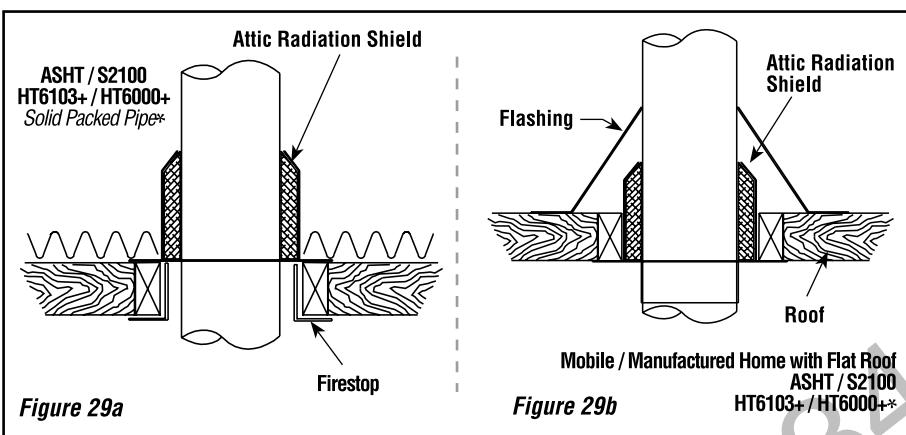

Figure 29a
2. From below, install a firestop in each ceiling/floor separation through which the chimney will pass. At the attic level, install an attic radiation shield from above (**Figures 29a through 29d**).
3. Use another elbow to turn the chimney vertically. Secure the elbow, using three (3) 1/2" (12 mm) screws (provided with the elbow).
5. From below, install a firestop (See **Figure 29a**).